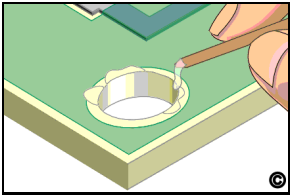

Figure 2: Apply Epoxy with a mixing stick sharpened at one end.
6. Apply the Epoxy up to and flush with the circuit board surface. A Mixing Stick or Plastic Probe may be used to apply and spread the Epoxy. (See Figure 2).